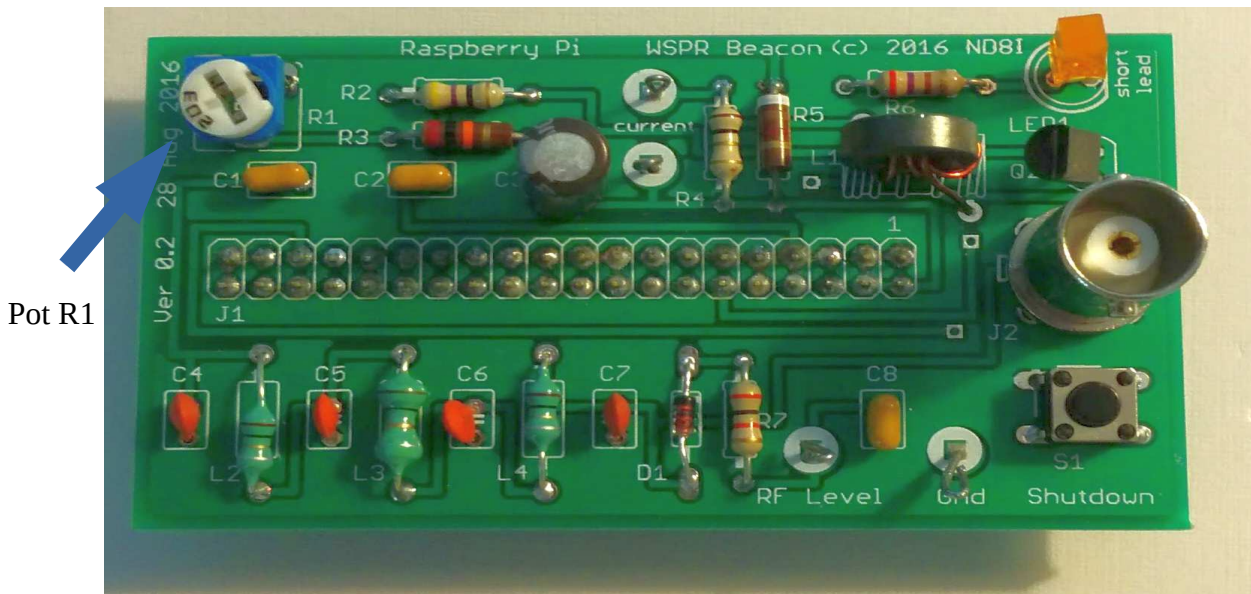
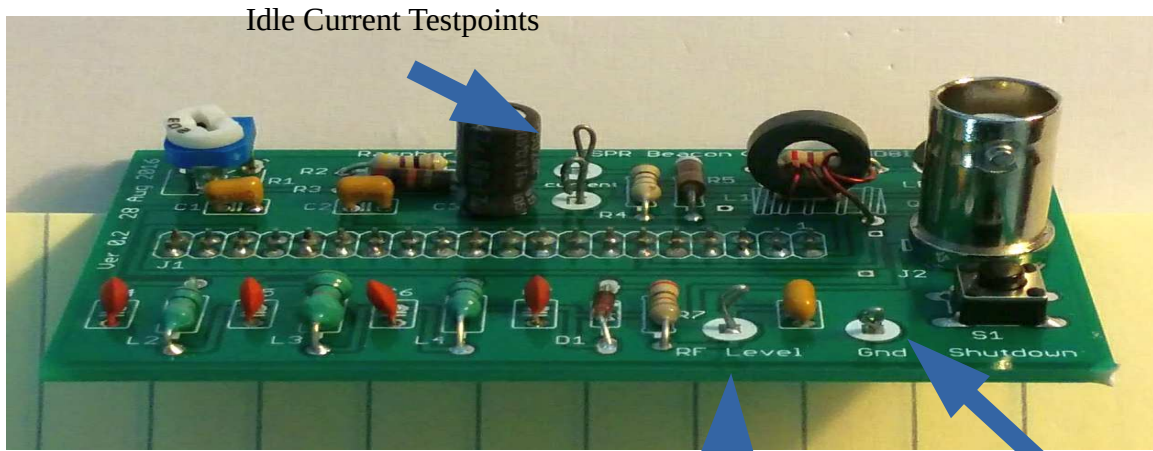

Figure 7: Populated Circuit Board
Figure 8: Populated Circuit Board (Side View)
8. Solder four short pieces of wire (what's left from the resistor leads works just fine here) into the holes marked *RF Level*, *Gnd* and *Current*. There are two holes by *Current*. Clip the wires to about 3/4" and make a small loop in the ends (see Figure 7: Populated Circuit Board and Figure 8: Populated Circuit Board (Side View)).
3. Using the DVM, measure the power supply voltage between the lower test point by *Current* and *Gnd*. This should be between 4.5 – 5.0 volts (see Figure 8: Populated Circuit Board (Side View)).
4. Using the DVM, measure the voltage across the terminals labeled *current* on the AFB (near the toroid). Turn pot *R1* on the AFB **clockwise** until the voltage across the terminals is roughly 0.030 volts. It's not really critical, just get it in the general range (say 0.025-0.035 volts) (see Figure 7: Populated Circuit Board and Figure 8: Populated Circuit Board (Side View)).